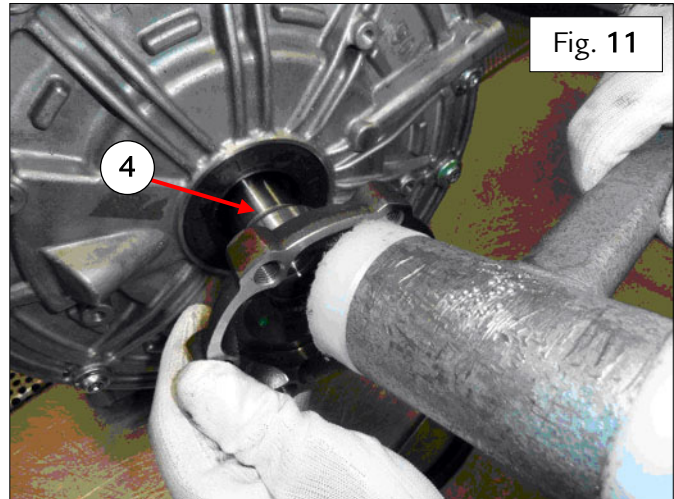

Fig. 11
- Use a plastic mallet to push the RH differential flange (4) the remaining distance into the relative seat on the gearbox – Fig. 11.